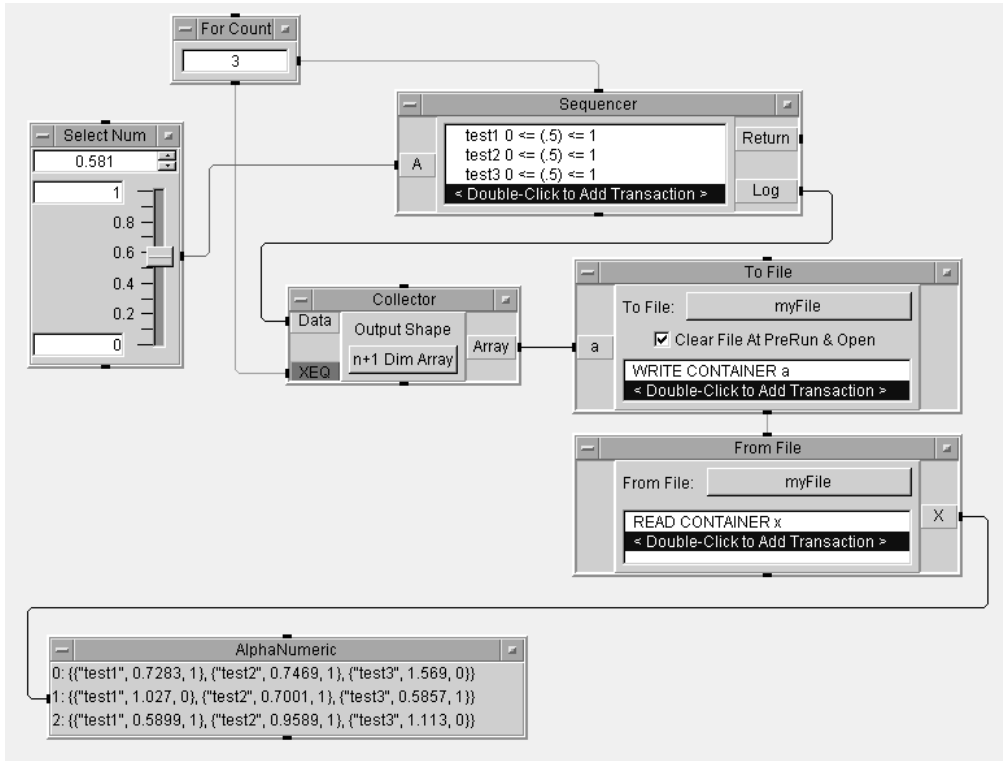

Figure 16.4. Storing Logged Data with To/From File
- ◇ 20. Run this program several times. Click Run, then click the OK button on the panel three times. It should look like Figure 16.4.